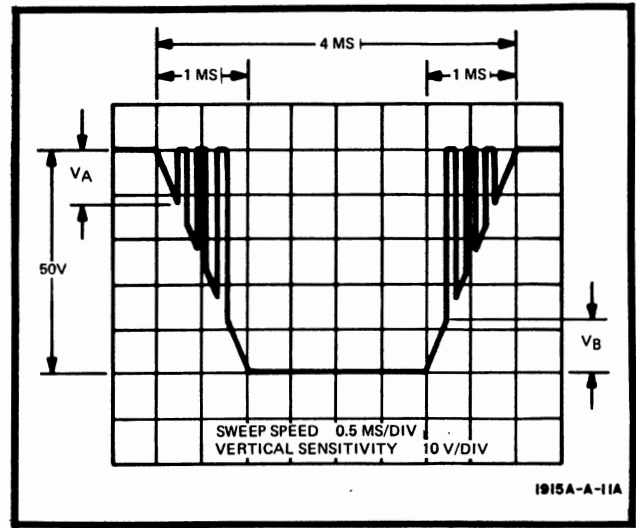

Figure 5-13. Negative Overload Adjustment Pulse
j. Set Model 1915A WIDTH vernier, LEADING EDGE and TRAILING EDGE controls to obtain the display shown in Figure 5-13.
n. Adjust A3R88 (neg power detector balance adj) and A3R85 (-PD) until V_A and V_B correspond to the values obtained in step m. (see Figure 5-13.)